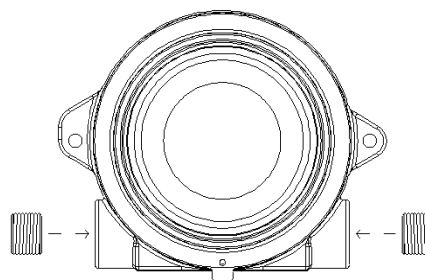

Figure 2-3
- a) If only one conduit entry is used, correctly install and seal the conduit plug on the unused entry, ¾ in. NPT or 25mm (see Figure 2-3).